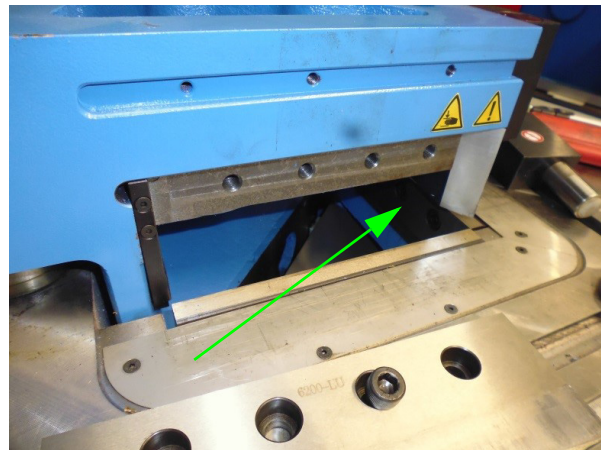

Fig. 19: Access to the fixing screws of the lower knife.
Step 9: After the upper knife has been removed, you can use an Allen key to reach the screws of the adjacent lower knife (Fig.19 or 20).